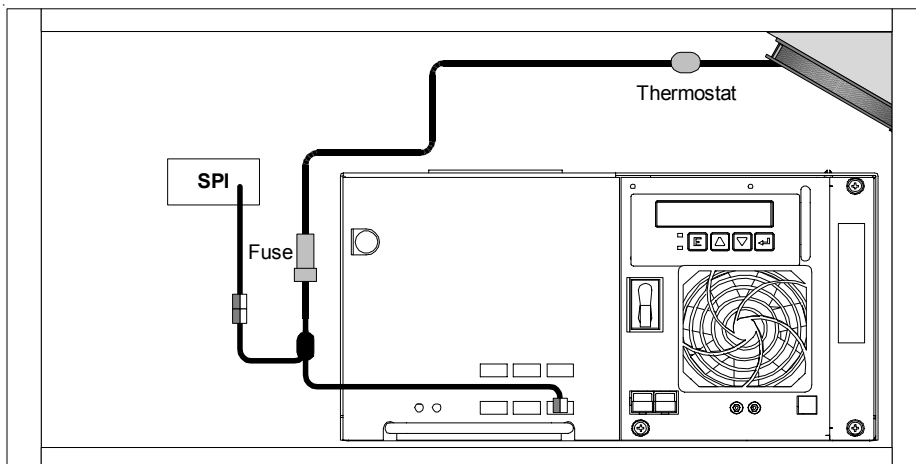

Fig. 3 Wiring Harness
6. Unplug the SPI from the OUTPUT jack on the power supply. Connect the plug from the fan kit labeled OUTPUT to the OUTPUT jack on the power supply (see Fig. 3)
7. Connect the plug from the SPI to the plug from the fan kit labeled SPI (see Fig. 3).